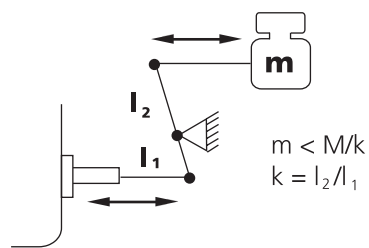

Figure 35
- If the interlocking mechanism is directly attached with the synchronizing shaft the moment of inertia of the attached mechanism shall not exceed $4.3 \times 10^{-4} \text{ kg/m}^2$ ($1.2 \times 10^{-4} \text{ kg/m}^2$ for single phase series). If both stub shafts of the synchronizing shaft are used, the sum of the attached moments of inertia shall not exceed $4.3 \times 10^{-4} \text{ kgm}^2$ or $1.2 \times 10^{-4} \text{ kgm}^2$ for the single phase series (Figure 35).